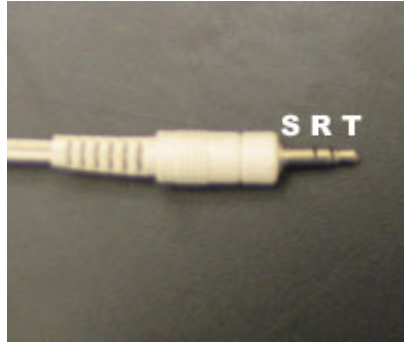

Fig 2. Shield Acoustic wire and metal mesh as sensor tips
2 speakers are used for both left and right tracks. We use headphone wire here for the speakers. The outside connection of acoustic wire is described in Fig 2. Inside the wire, there are 4 clusters of wire: Left sound (R), Left ground (S), Right sound (T), Right ground (S). To solder the shield wire, the outside copper shell must be removed. We heat the wire using soldering gun to solve this problem. And the color change is perceptible during heating.